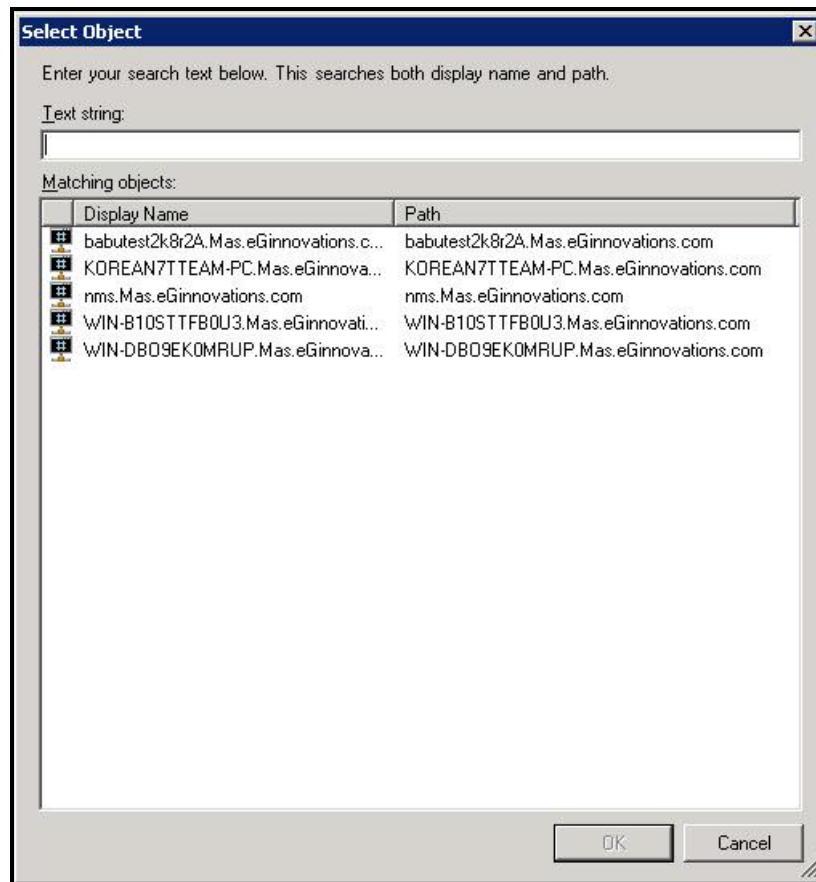

Figure 2.17: Selecting the server that hosts the eG SCOM Connector service
4. Figure 2.17 will then appear. From the list of **Matching objects** displayed here, pick the server that hosts the eG SCOM Connector. Then, click the **OK** button in Figure 2.17.